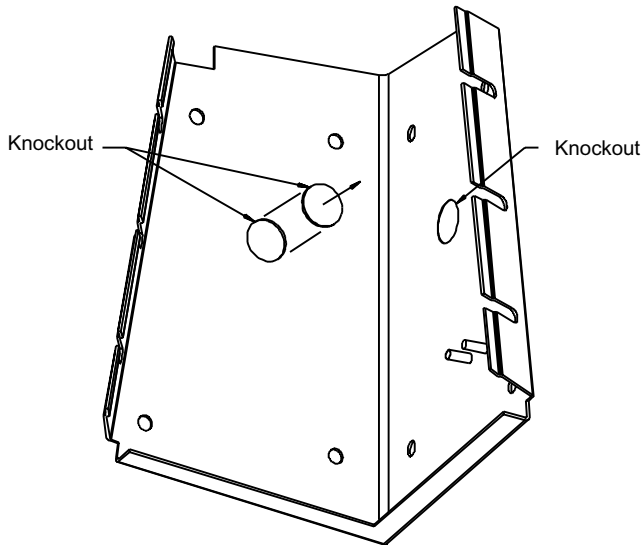

Figure 6: Knockouts
4. Decide how wiring will be routed into the housing. If needed, remove the appropriate knockout (PG21 - 1 in). **See Figure 6.**